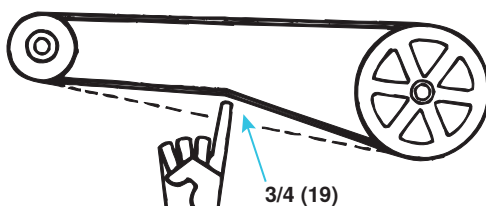

Figure 27. Checking Belt Tension
- Proper belt tension is important to the long life of the belt and motor. A loose belt will cause wear and slippage. Too much tension will cause excessive motor and blower bearing wear. Check belt tension as shown in Figure 27.
- If the belt cannot be depressed 3/4 inches (19 mm), as shown in Figure 27, adjust the belt tension as follows:
- f. Replace the belt and adjust the belt tension. Adjust tension by turning the adjusting screw on the motor base until the belt can be depressed 3/4 inch (see Figure 27). Re-tighten the lock nut on the adjusting screw. Ensure that the belts are aligned in the pulley grooves properly and are not angled from pulley to pulley.